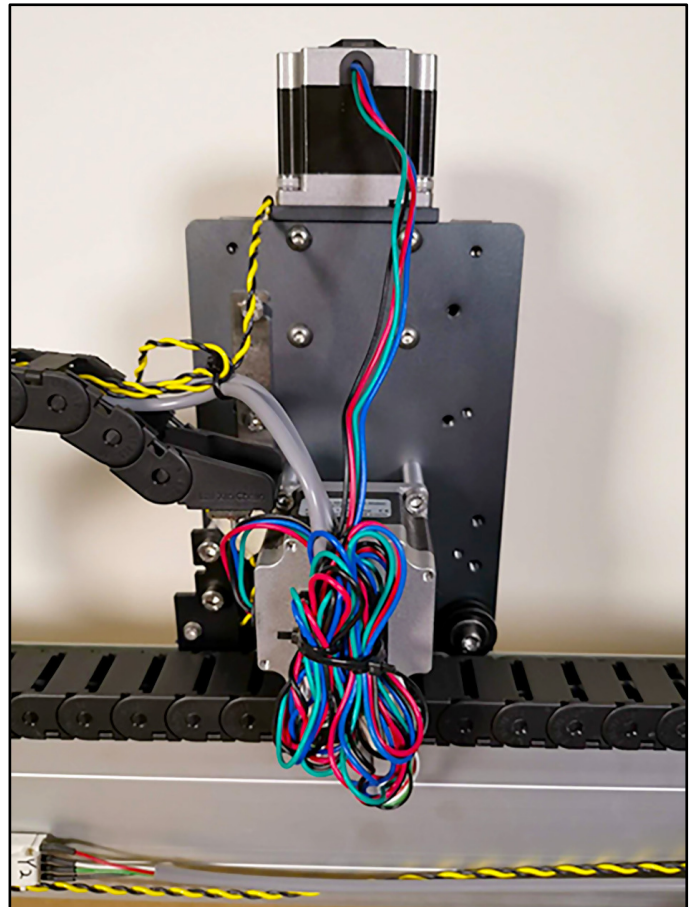

Figure 16
2. Tidy up your wiring with zip ties. See **Figure 16**.